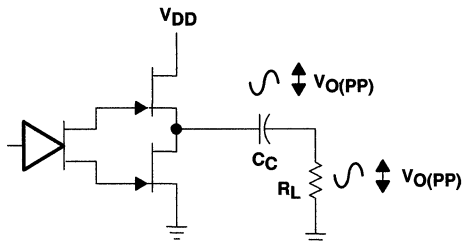

Figure 35. Single-Ended Configuration
In a typical computer sound channel operating at 5 V, bridging raises the power into a 8-Ω speaker from a single-ended (SE) limit of 250 mW to 1 W. In sound power, that is a 6-dB improvement which is loudness that can be heard. In addition to increased power there are frequency response concerns, consider the single-supply SE configuration shown in Figure 35. A coupling capacitor is required to block the dc offset voltage from reaching the load. These capacitors can be quite large (approximately 40 μF to 1000 μF) so they tend to be expensive, occupy valuable PCB area, and have the additional drawback of limiting low-frequency performance of the system. This frequency limiting effect is due to the high pass filter network created with the speaker impedance and the coupling capacitance and is calculated with equation 2.